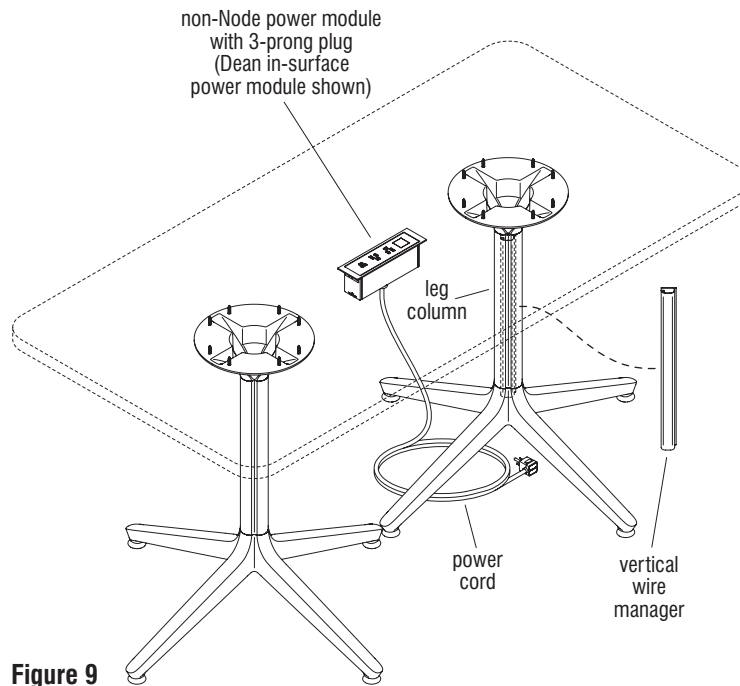

Figure 9
1. Position the vertical wire manager in the desired location against the leg column and as illustrated, in between the feet, which is closest to a power source. Align the vertical wire manager centered, straight along the leg, and flush with the bottom of the leg column. Then mark the location of the wire manager and move the unit away (Figure 9 & Detail I).
2. Remove the adhesive backing from the vertical wire manager to expose the adhesive surface. Position the wire manager back to the marked location, centered on the leg, and press firmly along the adhesive area (Figure 9 & Detail I).